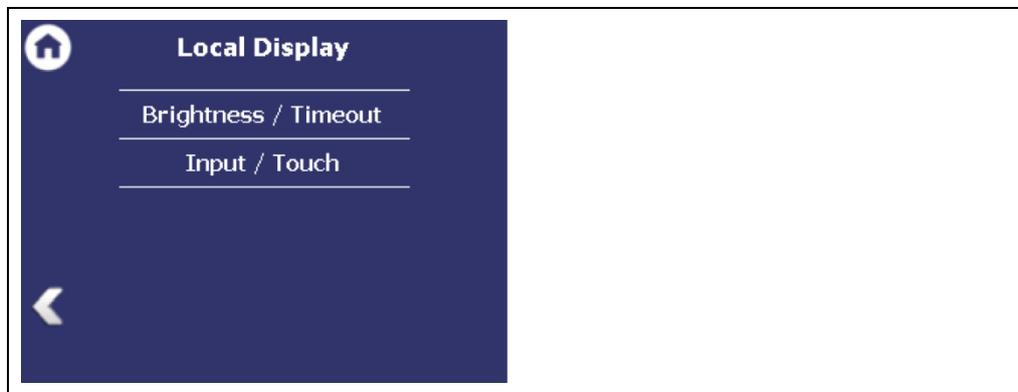

Fig. 42 Submenu "Local Display"
To set or change a password, select "Standard" (Fig. 42, item 4) and click on <Change password> (Fig. 42, item 2) to open the input field.